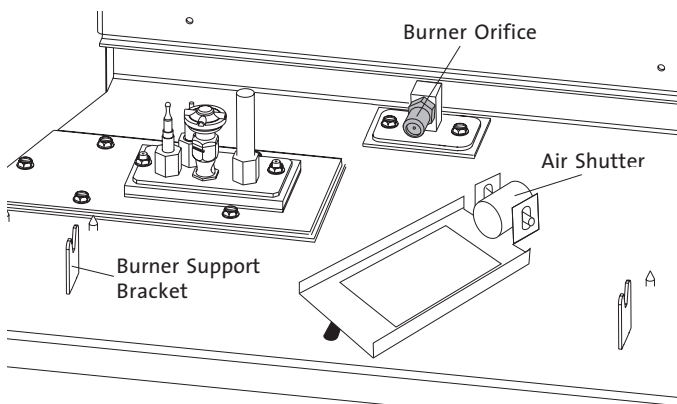

Figure 3. Accessing the burner orifice.
- 2. Remove the Burner.** Loosen the wingnut on the Air Shutter Stem, located under the center of the firebox floor, and push the stem back as far as it will go. Disengage the burner assembly from the Air Shutter by lifting it up and back, out of the firebox. Swing the Air Shutter out of the way to access the burner orifice. See fig. 3.
- 3. Change the Burner Orifice:** Use the 1/2" (13 mm) deep well socket to remove the original burner orifice. Replace it with the orifice from this kit. Tighten the orifice securely. See fig. 3.